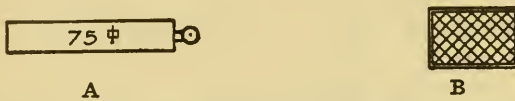

Fig. 17. Conventional Symbols for Heating Apparatus. A—Steam or Hot-Water Radiator; B—Hot-Air Register.
For the **heating**, about all that is necessary is to show the location of the registers or radiators, marking the number of square feet of radiation on each radiator. The usual method is shown in Fig. 17 (A) for steam or hot water, and in Fig. 17 (B) for hot air. The specifications should